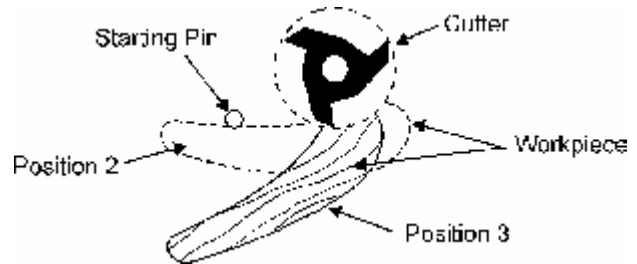

Figure 43
- After the cut has been started, the work is swung free of the starting pin and only rides against the collar (Figure 43). Always feed against the cutterhead rotation.